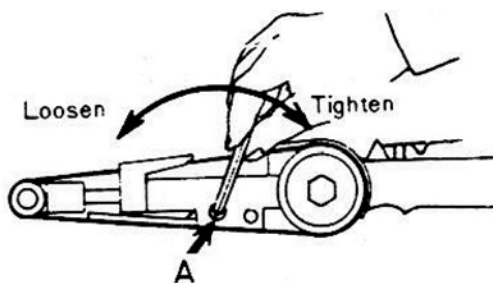

Figure 8
3. Loosen hex socket cap screw (A, Figure 8).
5. Tighten screw (A) and replace belt.